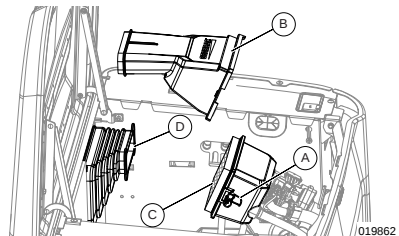
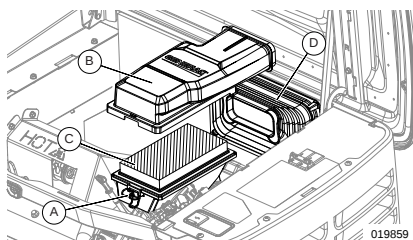

Figure 4-4. Servicing Air Cleaner (10 kW)
Figure 4-5. Servicing Air Cleaner (14–28 kw)
5. See Figure 4-4 and Figure 4-5. Remove cover clips (A) and air cleaner cover (B).